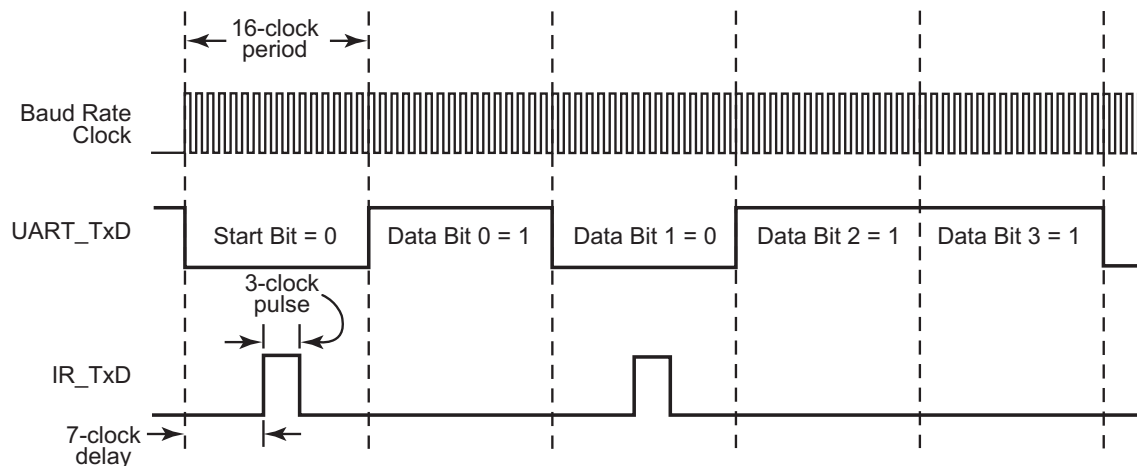

Figure 37. Infrared Data Transmission
The data to be transmitted via the IR transceiver is first data sent to UART0. The UART transmit signal, Tx_D, and Baud Rate Clock are used by the endec to generate the modulation signal, IR_TxD, that drives the infrared transceiver. Each UART bit is 16 clocks wide. If the data to be transmitted is a logical 1 (High), the IR_TxD signal remains Low (0) for the full 16-clock period. If the data to be transmitted is a logical 0, a 3-clock High (1) pulse is output following a 7-clock Low (0) period. Following the 3-clock High pulse, a 6-clock Low pulse completes the full 16-clock data period. Data transmission is illustrated in Figure 37. During data transmission, the IR receive function should be disabled by clearing the IR_RxEN bit in the IR_CTL reg to 0 to prevent transmitter-to-receiver crosstalk.